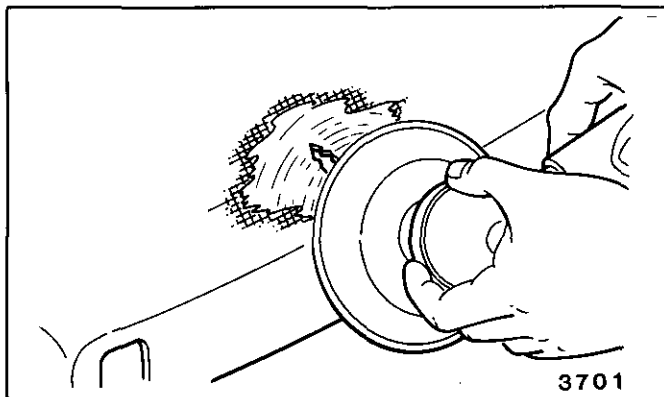

Fig. 1-11-Removing Paint Surrounding Damage
- a. Clean the repair area with a wax, grease and silicone removing solvent applied with a water-dampened cloth. Wipe dry. With a random orbit sander fitted with a #180 grit disc, remove the paint film in and surrounding the area to be filled. The repair material should **not** overlap the painted surface (Fig. 1-11).